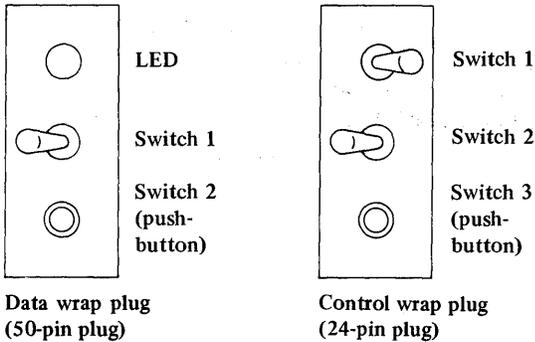

Figure 4-13. Manual mode wrap plugs for test 1
- Set the toggle switches on the data wrap plug and the control wrap plug as shown in Figure 4-13.
Are all switches positioned as shown in Figure 4-13?